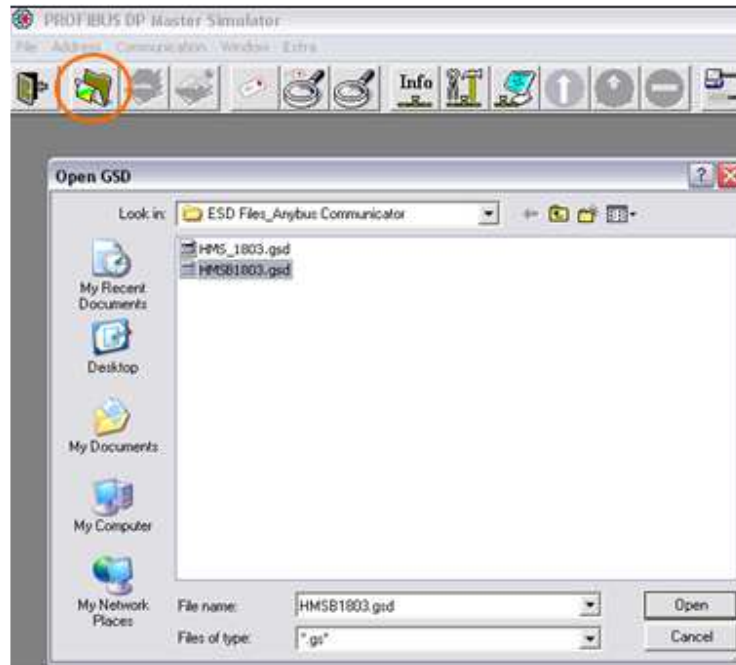

Figure 36 - loading the GSD file
- 2- Click on the **Open GSD** button and select the GSD file included in the CD of the Anybus Communicator, see figure 36.